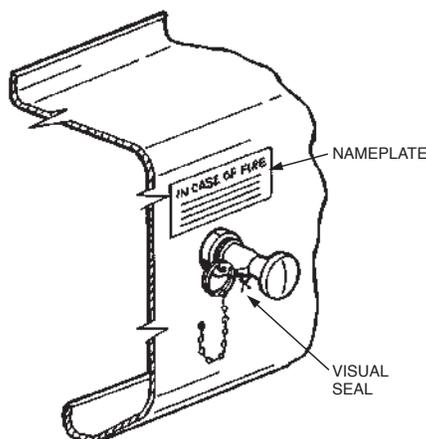

FIGURE 5-13
4. Affix appropriate operating nameplate adjacent to manual actuator so that it is visible to attending operator. See Figure 5-13.
5. Make certain ring pin is inserted through RED actuator button to ensure safe cartridge installation. See Figure 5-13.
- ▶ 6. Seal ring pin to actuator stem with visual seal (Part No. 197). Make certain visual seal is looped through ring pin and around actuator stem. Do not wrap seal around the boot cover. See Figure 5-13. **DO NOT INSTALL CARTRIDGE AT THIS TIME.**